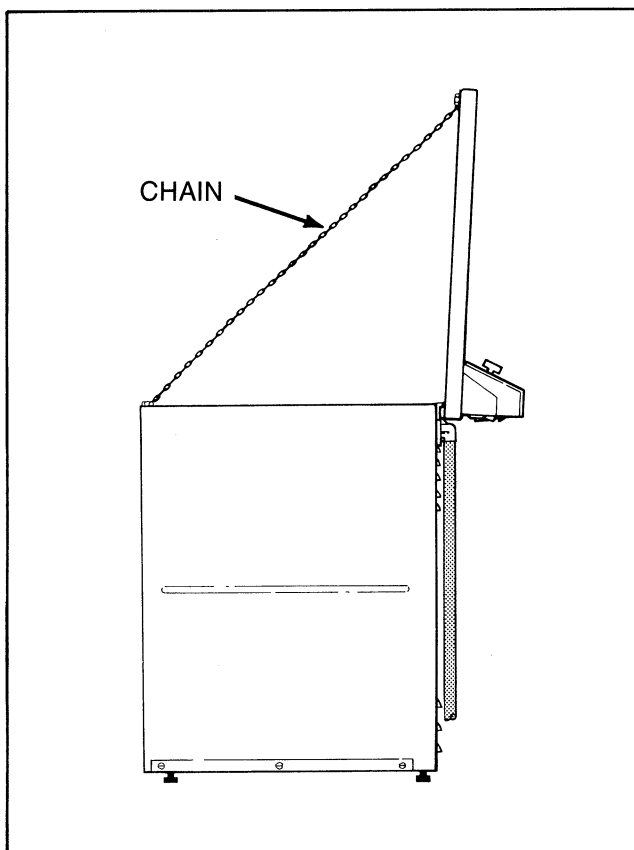

Figure 23
NOTE: Cabinet top is self supporting, or use a small chain to support the cabinet top, *Figure 23*.
- Remove screw holding mixing valve to mounting bracket at rear of washer cabinet, *Figure 23*.